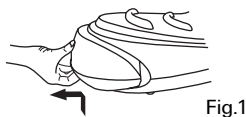

Fig.1
1. Press upwards the release button at the water tank and slide the detachable water tank outwards from the base. (See Fig.1)